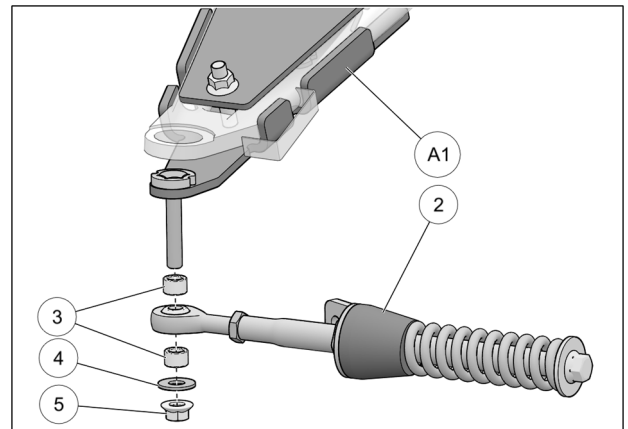

Fig. 21
9. Attach the stabilizing rod (2) to the anchor bracket (A1), using the two spacers (3), washer (4), and nut (5). Torque to 70 N•m [52 lb•ft]. Refer to Fig. 21